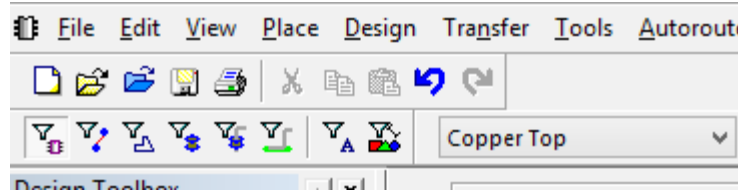

Figure 4: Part Selection
14. Next, we use the selection enable icons located in the top left corner so that we only have the part selection enabled, see figure 4. This allows us to turn on and off what components we can actually select. This is extremely helpful in more complicated circuits when the board becomes extremely cluttered.